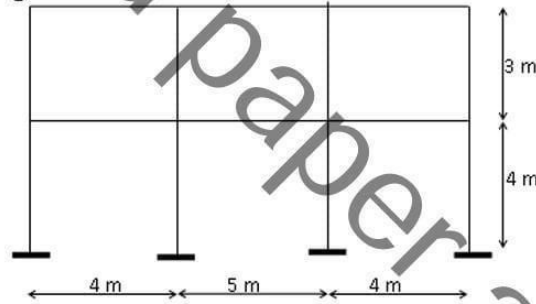

Figure 4
6. In a multistoreyed building, the frames as shown in figure 4 are spaced at 4.2 m. The dead and live loads carried by the slab are 1.5 kN/m^2 and 2.5 kN/m^2 respectively. Using substitute frame method, analyze an intermediate beam of the first floor for mid-span positive bending moment. Use substitute frame method. [15]